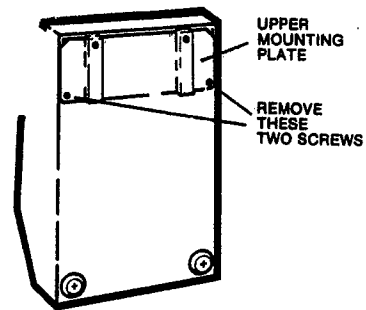

FIG. 2A. REMOVING MOUNTING PLATE
Step 1. Remove the upper mounting plate on back of heater by removing the two screws which secure it. (Fig. 2A)